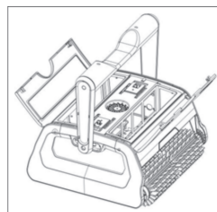

Figure 2
- Open both sides of the cover (see Figure 2).